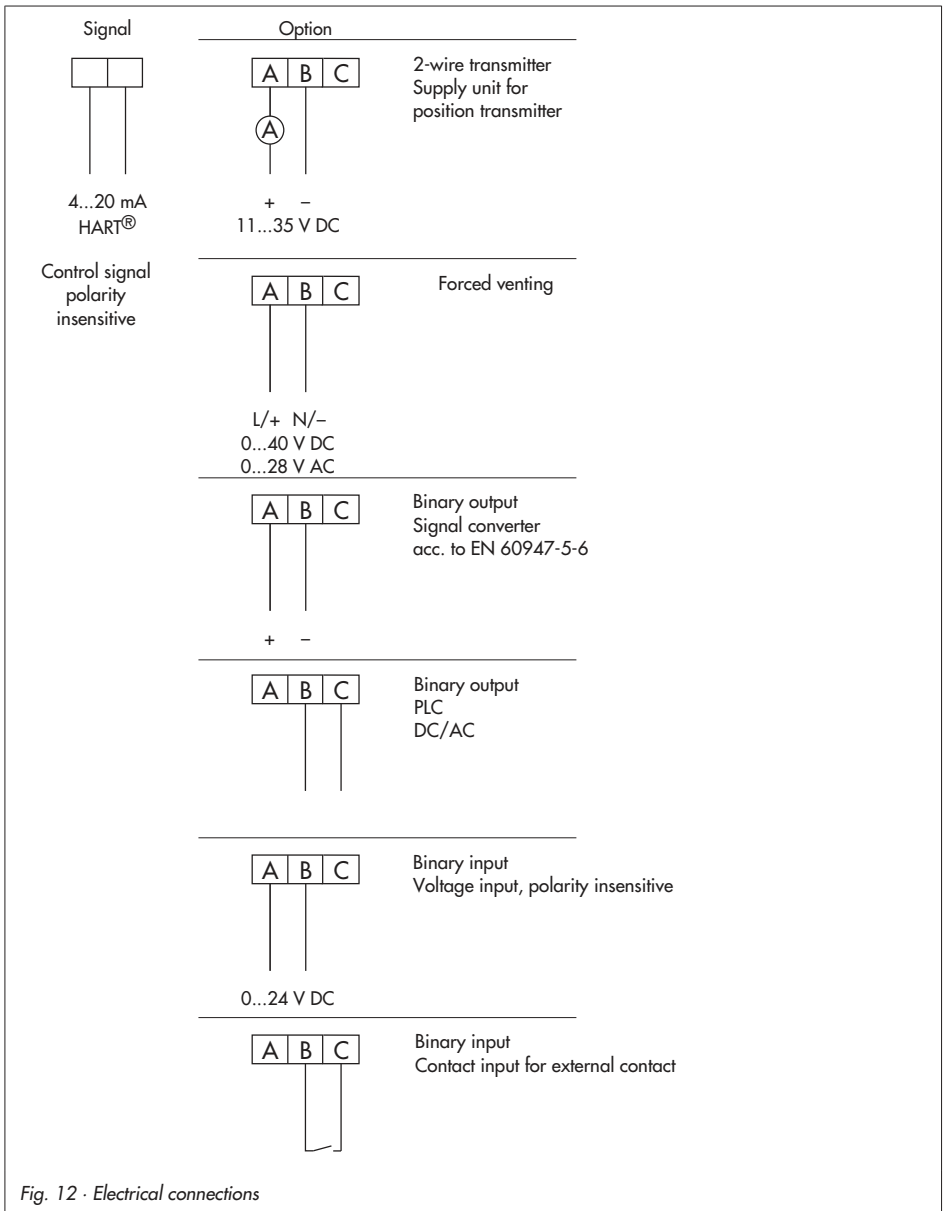

Fig. 12 · Electrical connections
3. Connect wires to the terminals as shown in the wiring diagram (Fig. 12).